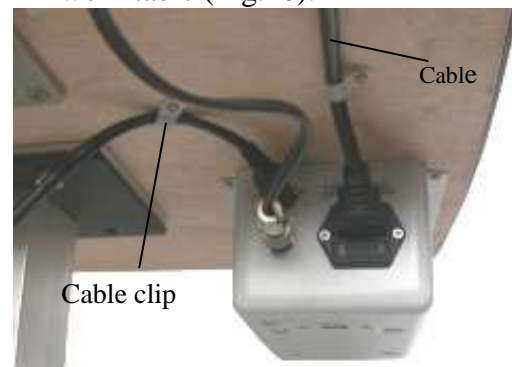

Fig.10
- ✧ Insert the plug of the input power cable (G) into the input socket of the power box.
- ✧ Remove the cable clips from the bottom of the work table with screw driver (O) and wrap the output and input cables respectively, then reattach them to the bottom of the work table (Fig.10).